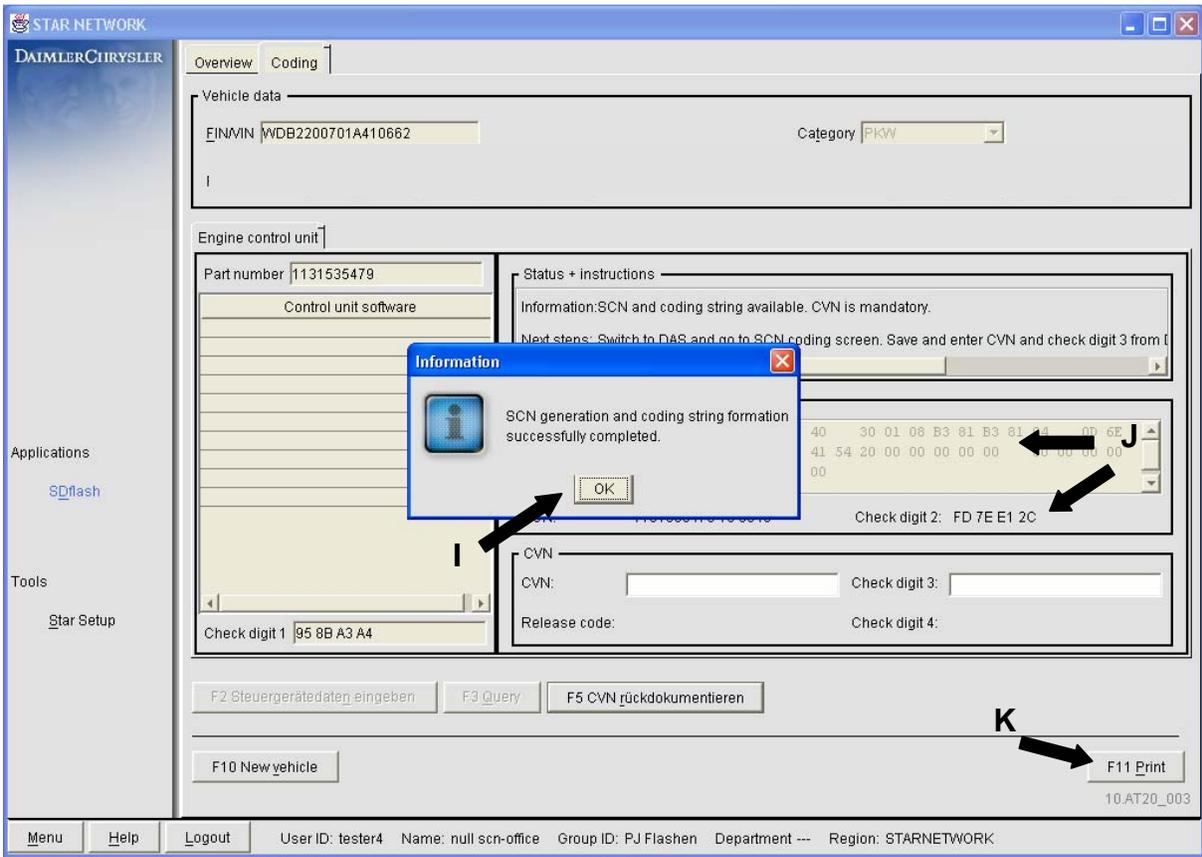

Figure 11
4. Display SCN Coding Information. (Figure 11)